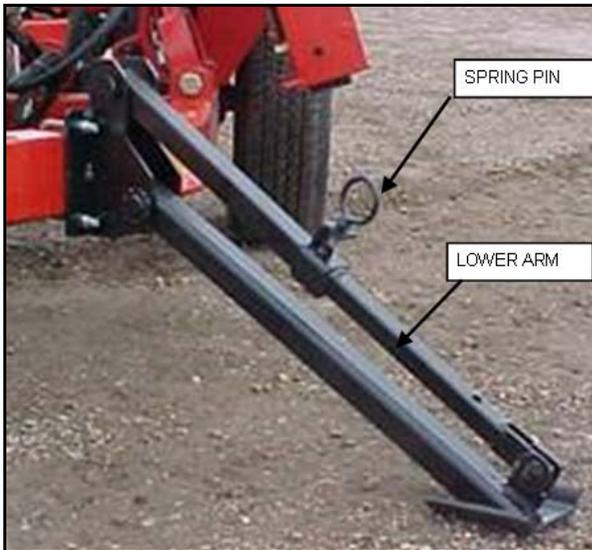

**Figure 5.1 Hugger Open**
1. Using the hydraulic controls, raise the impact head and open the hugger (Figure 5.1).